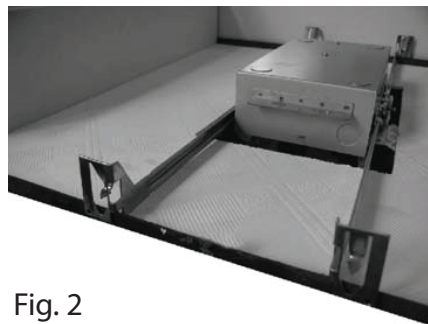

Fig. 2
6. Mount the back box in place using the provided hanger bars. Fig. 2